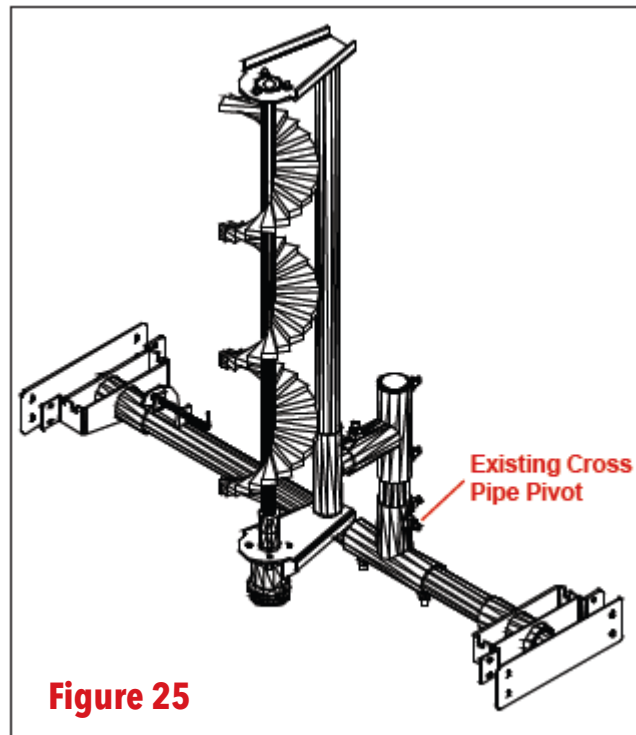

Figure 25
1. Loosen (2) set screws that connect the main auger assembly to the existing cross pipe pivot.
3. Rotate existing cross pipe pivot to vertical position. (Figure 25)